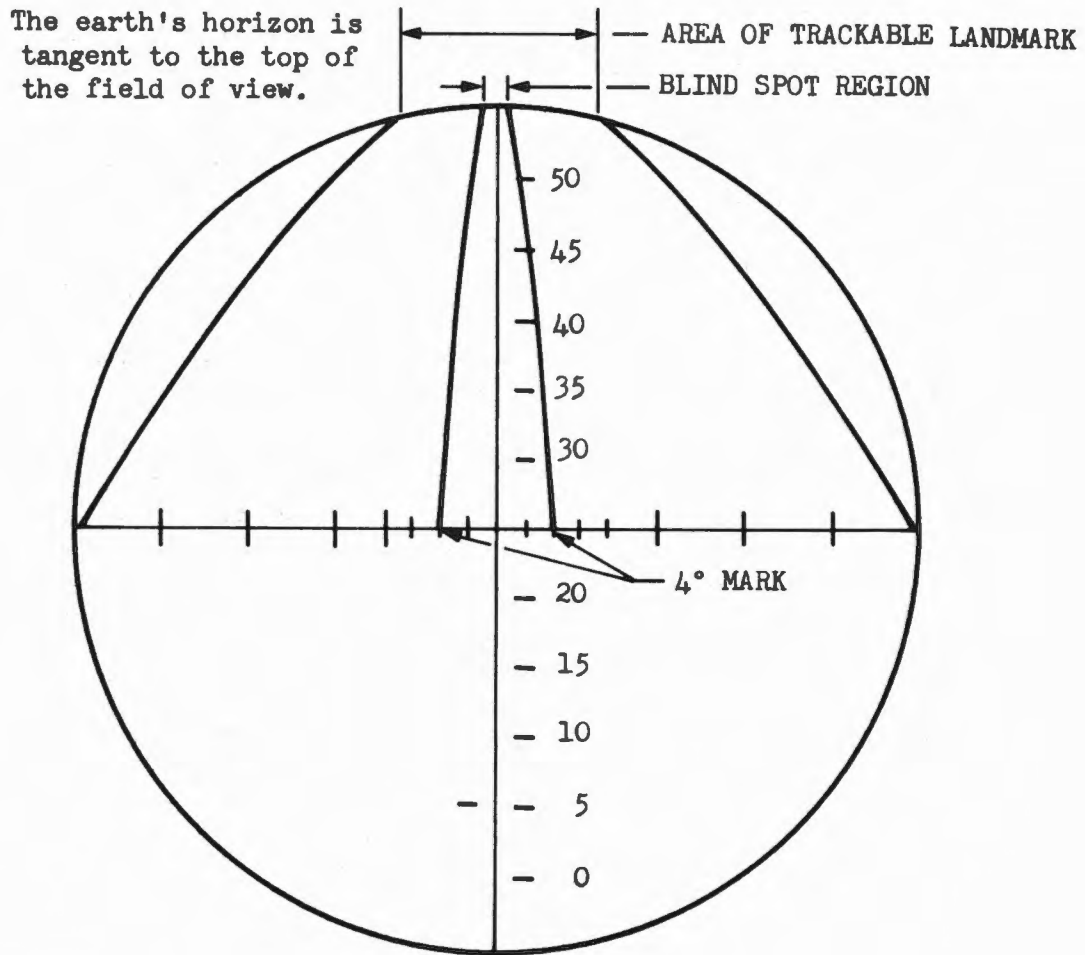

Figure 5-12. Telescope Field of View for Landmark Recognition Limit and Distance from Orbital Plane.
5.1.4.1 Landmark Recognition Limit. A landmark must be recognized a given distance in front of the vehicle. This distance is dictated by the time it takes the operator to acquire, track and accurately obtain two MARKS before the landmark passes from the field of view of the telescope. For a given landmark, this distance will establish a point on the path the landmark will follow. This point is the Landmark Recognition Limit. The point will fall on a line which is the recognition limit for all landmarks. The reticle's "M" line can be superimposed on this line by driving the optics in trunnion until the earth's horizon is just tangent to the top of the telescope's field of view, (see Figure 5-12). The landmark should be recognized before it passes the "M" line in the above position. If the landmark is recognized after it has passed the "M" line there may not be sufficient time remaining to acquire, track and obtain two accurate MARKS before the landmark passes from the field of view of the telescope.
5.1.4.2 Distance from Orbital Plane. After the landmark is recognized, the operator must determine if the landmark will pass inside of the Landmark Definition Limit. The band width on each side of the orbit plane is eighty-five nautical miles. With the reticle in the same position as for the Landmark Recognition Limit, the landmark position can be easily determined. If the landmark will cross the "M" line before it passes from the telescope's field of view, it will fall within the proper band, (see Figure 5-12). The operator should determine the above when the landmark is recognized. Waiting for the landmark to cross the "M" line would only be wasting time. Once it is determined the landmark will pass within the required band, the operator should center the landmark on the crosshairs of the telescope.